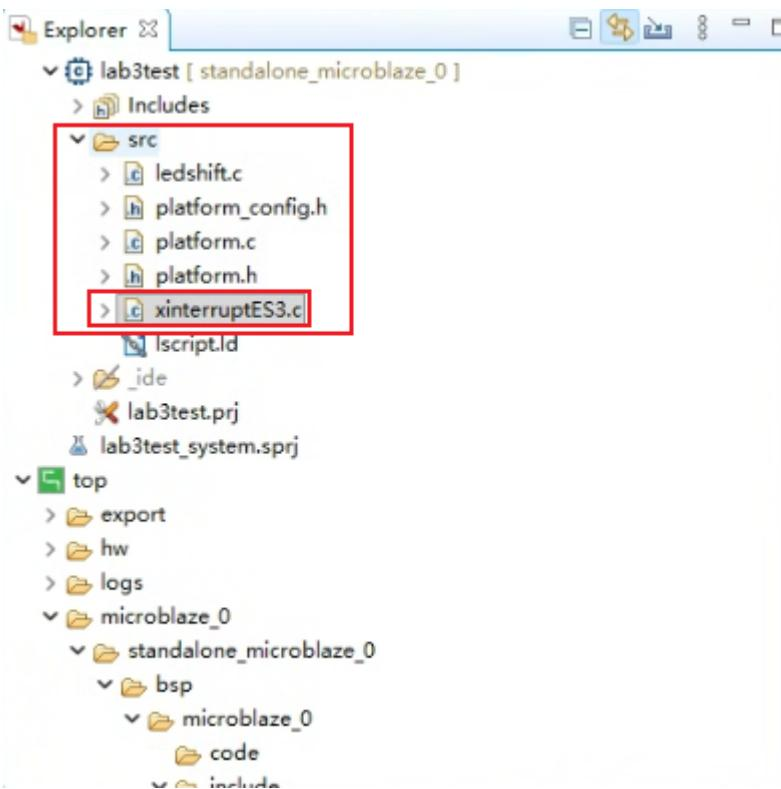

Figure 17.
- As shown in Figure 17, copy the **xinterruptES3.c** file to the **src** folder. As shown in Figure 18, write an **hwTimerISR**, which rotates the content of `ledValue` to the left every interrupt event using the shift instruction. **Note that the hardware timer gives an interrupt every 0.1 second.**